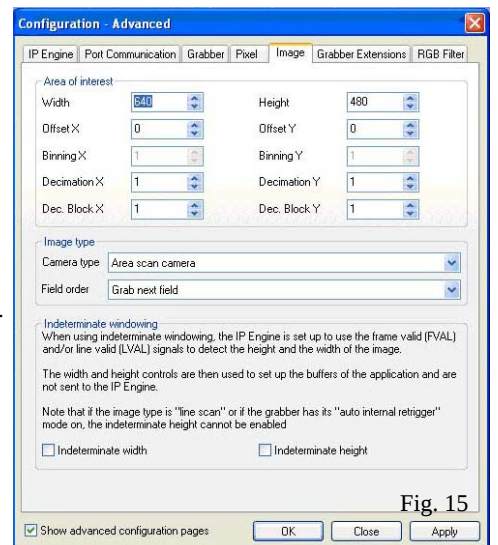

Fig. 15
- Open “Image” tab, the image size 640 x 480 (VGA, default) is acceptable but can be changed to 656 x 494 for VGA. SXGA is required to type “1392 x 1040” or smaller. Note: The horizontal number must be increment of 4. For the quick test purpose, you can stay with the default value until you see image capturing and ready for configuration changes. (Fig. 15)